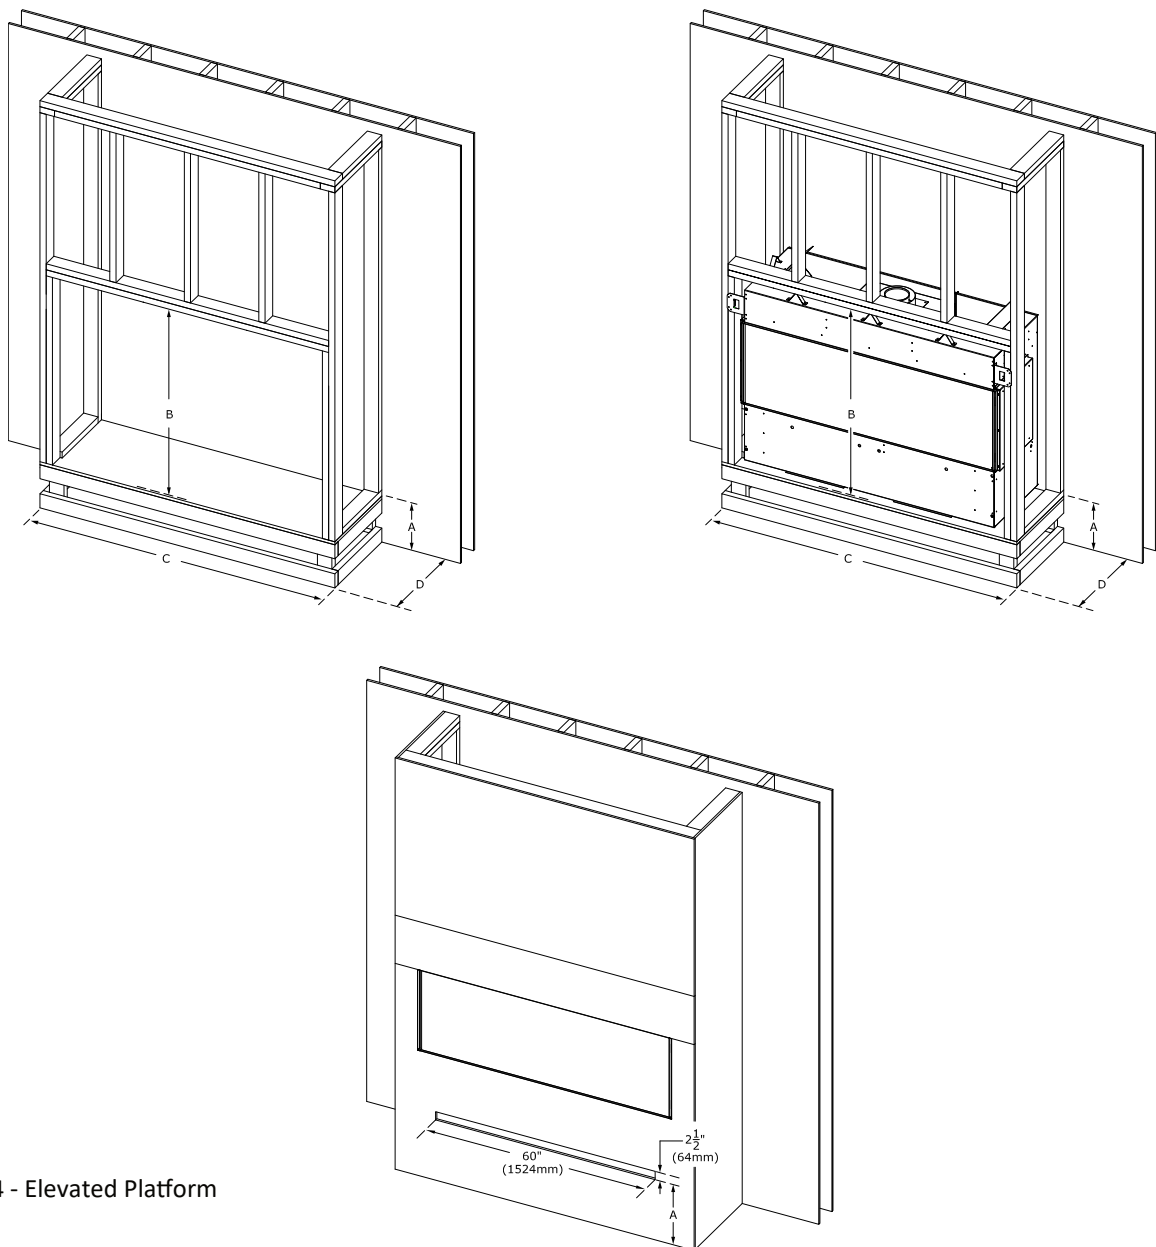

Figure 4.4 - Elevated Platform
- If you want to elevate the fireplace and have the air intake opening elevated off the floor as well you can follow the illustrations in Figure 4.4. The air intake opening moves with the fireplace where air intake opening starts with the base of the fireplace. Determine the height of the air intake opening you want and build the platform height according to that. The platform should be constructed with a solid plywood base.